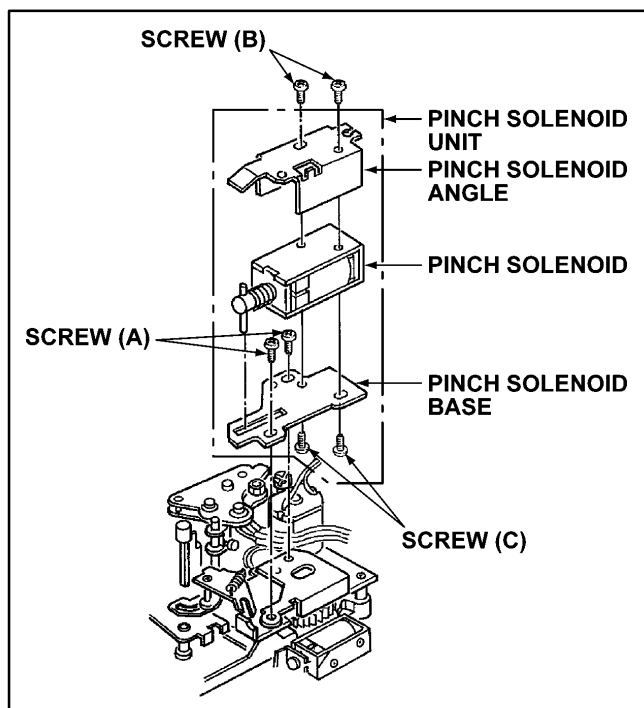

Figure 1-10
1. Disconnect the **connector (A)** on the **P.C.Board (B)**. (Refer to above chart)
2. Unscrew the 2 screws (A) and remove the Pinch Solenoid Unit as shown in Figure 1-10.
3. Unscrew the 2 screws (B) and remove the Pinch Solenoid Angle as shown in Figure 1-10.
4. Unscrew the 2 screws (C) and remove the Pinch Solenoid from the Pinch Solenoid Base.